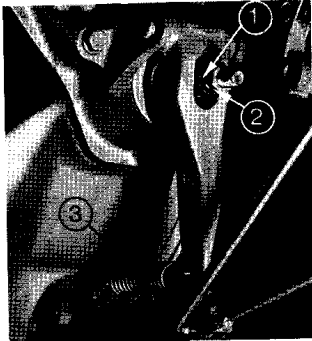

FIG. 25
1. Fig. 25. Chock the front wheels and jack the rear wheels clear of the ground, release the parking brake and disconnect the brake return springs (3).
3. Slacken the locknut (2) and turn the nut (1), clockwise to reduce pedal free travel or anticlockwise to increase it, until the correct pedal free travel is achieved. Tighten the locknut.
6. Drive the tractor, with the brake pedals latched together, checking for pulling to one side. Any tendency to pull to one side should be counteracted by turning the nut (1) anticlockwise on the side to which the tractor pulls.